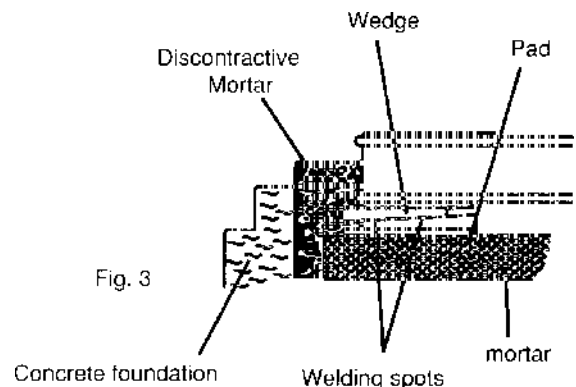

Fig. 3
- Sole plate or common bed should be embedded in concrete foundation as illustrated in Fig. 3. Stiff pads should also be installed beneath the wedges, which are welded together at various spots about 15.75-19.70 inches (400-500mm) apart etc., to enable the foundation to carry evenly the weight of the whole motor.